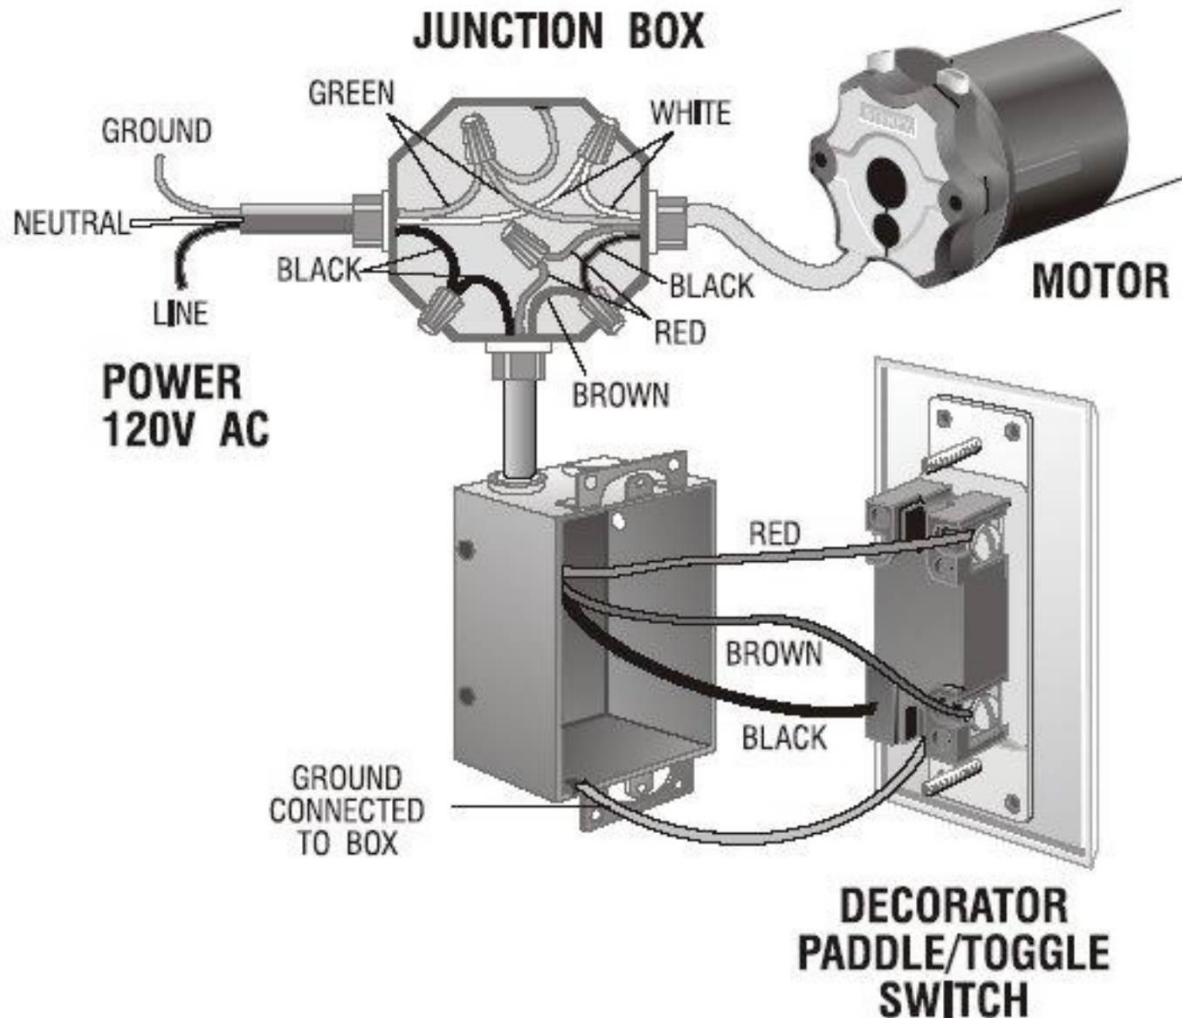

Figure 1: Toggle Switch Wiring for In-Tube Motor
- *See Figure 1 for appropriate AC Power wiring for your motor*
- NOTE: The GREEN Motor wire and the GREEN ground from your line-in terminate at the chassis of a junction box (See Figure 1).